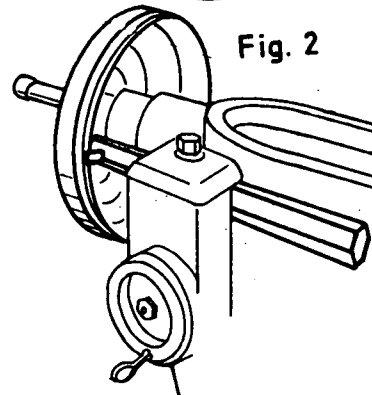

Fig. 3
b) Mount the cutting instrument (fig. 3).